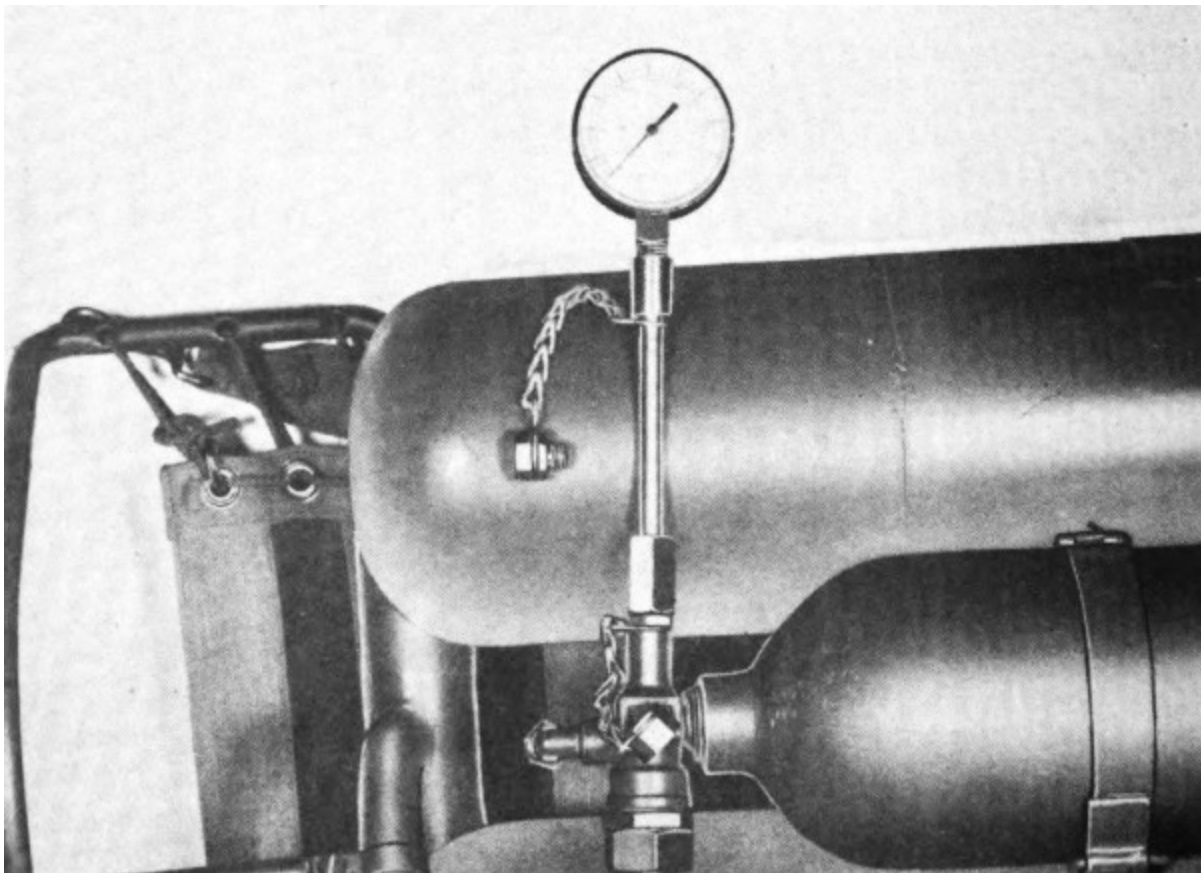

Fig 32. Testing pressure tank and valve, using 0-3,000-pound testing gage from service kit.
2 Gages, pressure cylinder testing, assembly B81-6-90. (Fig 32)
d. Testing for leaks in pressure system. After charging, and as few hours as possible before a mission, use an 0-3,000-pound gage furnished in service kit to test pressure. (Fig 32) To install gage, unscrew check-valve cap and screw gage in check-valve body. If pressure has fallen below that to which the tank was charged (Par 32), a leak is indicated. Remove gage, replace check-valve cap, and check for leaks at joints between pressure tank and valve and between tank valve and check valve. (A wrench should be used to tighten cap on check-valve body so as to avoid producing an additional leak.) Large leaks can be felt or heard. Small leaks can be detected by coating joints with soap-and-water solution. Bubbles indicate leaks. If a leak is revealed between pressure tank and pressure-tank valve, or between check valve and pressure-tank valve, replace all three as a unit. If tests do not show up the leak the tank may have been improperly charged. It should be recharged and then retested.